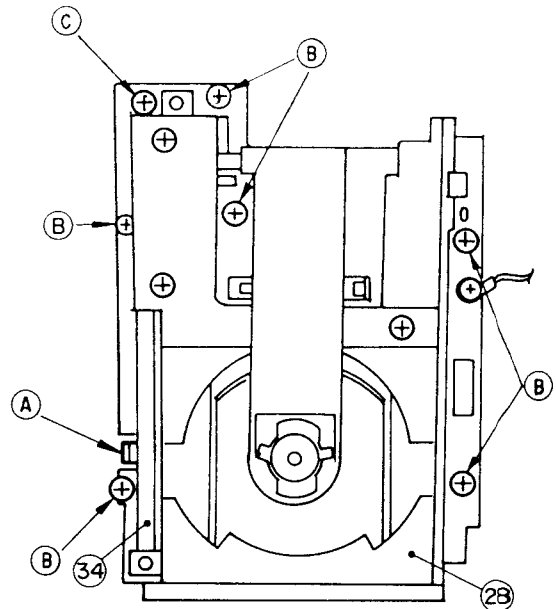

Fig. 1
Remove whole body of the Laser Pick-up Mechanism FG-612, pull the Loader Frame (28) frontward, then after unfasten screw C lift the Loader Rail (34) upward and pull it out backward, then the Loader Frame can be taken out (Fig. 1).